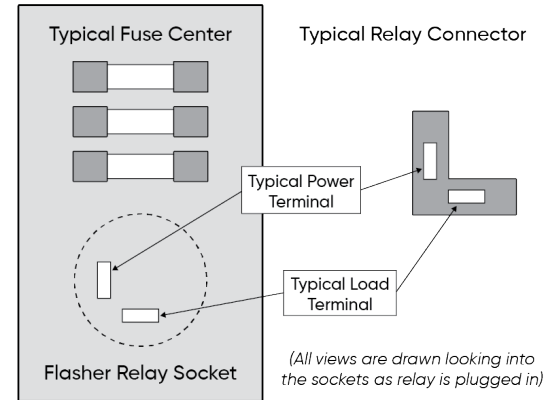

Figure 1
1. Locate and remove the vehicle's turn signal flasher. It may be plugged into a connector or mounted in the fuse block (see Figure 1).